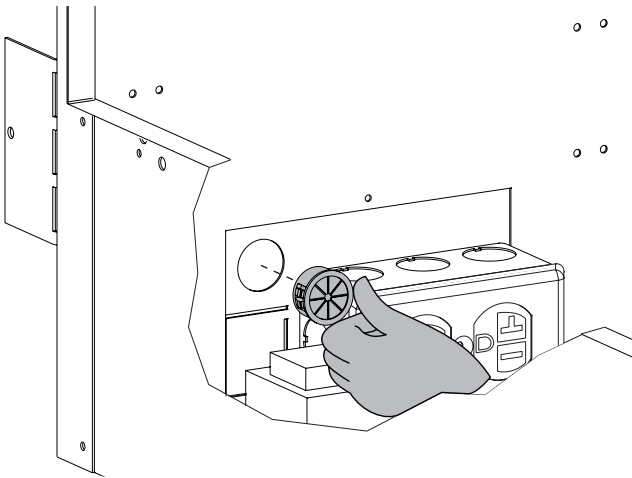
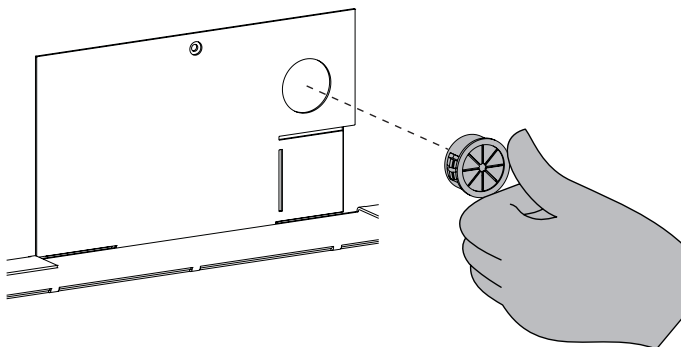

Figure 33
Figure 34
13. Install the provided plastic bushing in the opening where the wires exit the fireplace. See Figure 33 (left side), or Figure 34 (right side).